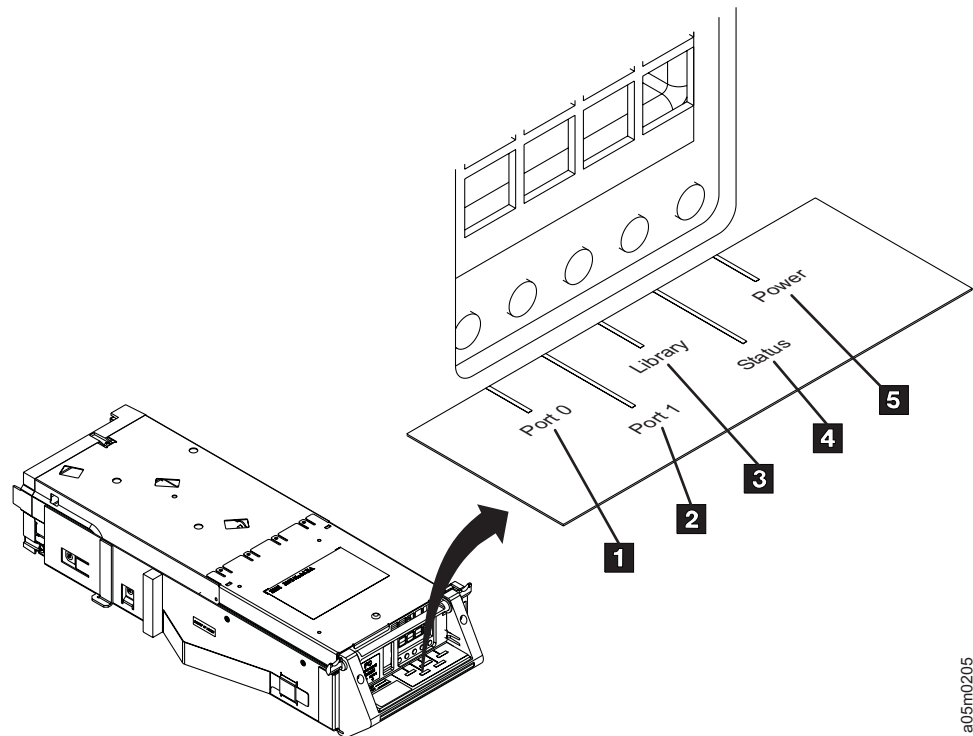

Figure 20. Drive rear panel LEDs
1. Verify that the drive is receiving power. The LED on the front of the drive and the Power LED (see **5** in Figure 20) on the rear of the drive should be a steady green.
3. Use the first two LEDs on the rear of the drive labeled Port 0 and Port 1 (see **1** and **2** in Figure 20) to determine if a problem exists between the drive, the cable, and the device to which it is attached. See Table 13 on page 62 for the meaning of the LED activity. Use switch, hub, or other fibre product tools and documentation as appropriate to further diagnose the problem.
The five LEDs on the rear of the drive can provide basic information about the status of the drive and its communication connections. In addition to the two Fibre Channel LEDs described in "Fibre Channel" on page 61, there are three additional LEDs. The Library (**3** in Figure 20 on page 61), Status **4**, and Power **5** LEDs can provide basic drive status information. Once you have identified a problem, record this information to report to your service representative. The LEDs can display steady on, blinking, or off in either yellow or green. See Table 14 for the meaning of the LED activity. If a color or mode is not listed, it is not used as a status indicator.